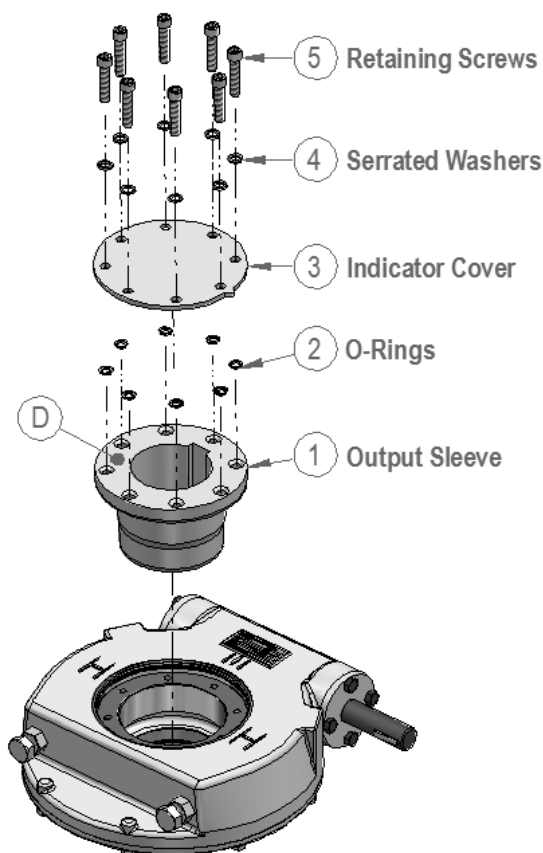
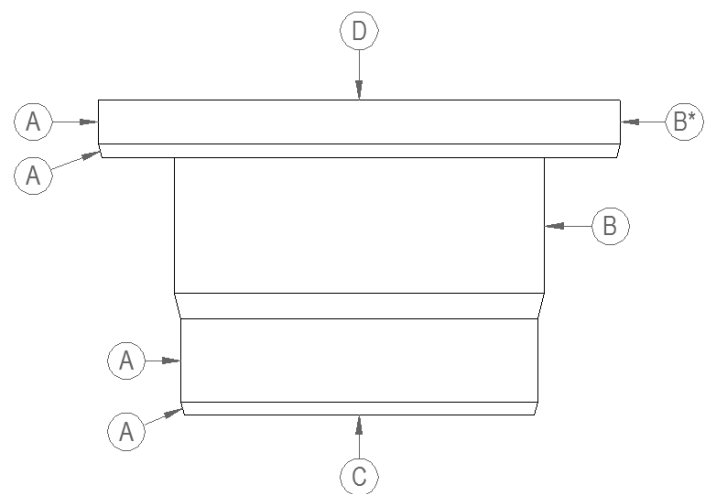

Figure 1 - Output Sleeve Arrangement
Figure 2 - Output Sleeve, Important Surfaces
All gearboxes except for IW12 to IW16 have a removable output sleeve (item 1, Figure 1). Unless specifically requested at the ordering stage, the output sleeve will be supplied blank and must be machined to suit the valve shaft.
Figure 1 shows the arrangement of the output sleeve in the gearbox. See Figure 2 for removing the output sleeve without damaging the sealing faces.
Important Notes in Figure 2:
Referring to the item numbers in Figure 1, the output sleeve can be easily removed from the top of the gearbox by first removing the retaining screws (5). The screws are either serrated under their heads or are fitted with serrated washers (4). Then remove the indicator/cover plate (3).
Referring to Figure 1, O-rings (2) are used to seal the indicator plate, output sleeve and retaining screws. Upon final installation on the valve, screws (5) must be tightened to the correct torque figures as shown on the label on the underside of the indicator/cover plate.
Before re-fitting the output sleeve after machining, check that the surfaces marked 'A' in Figure 2 are not damaged. Damaged surfaces can break the gearbox seals and cause water ingress or grease leakage. Applying a thin layer of grease to the faces marked 'A' will make refitting of the sleeve easier.
As detailed in Figure 1 and Figure 2, it is recommended that silicon sealant is applied to face 'D' to seal the indicator/cover plate to the output sleeve. Taking care not to apply sealant to the O-rings (2) or the sealing faces with the O-rings.
Before re-assembly, clean and de-grease the top face of the output sleeve, underside of the indicator/cover plate, and the socket head cap screws. Make a note of the tightening torque required for the output sleeve screws on the label on the underside of the indicator plate. Insert the screws and washers into the holes in the indicator/cover plate, as per Figure 1.